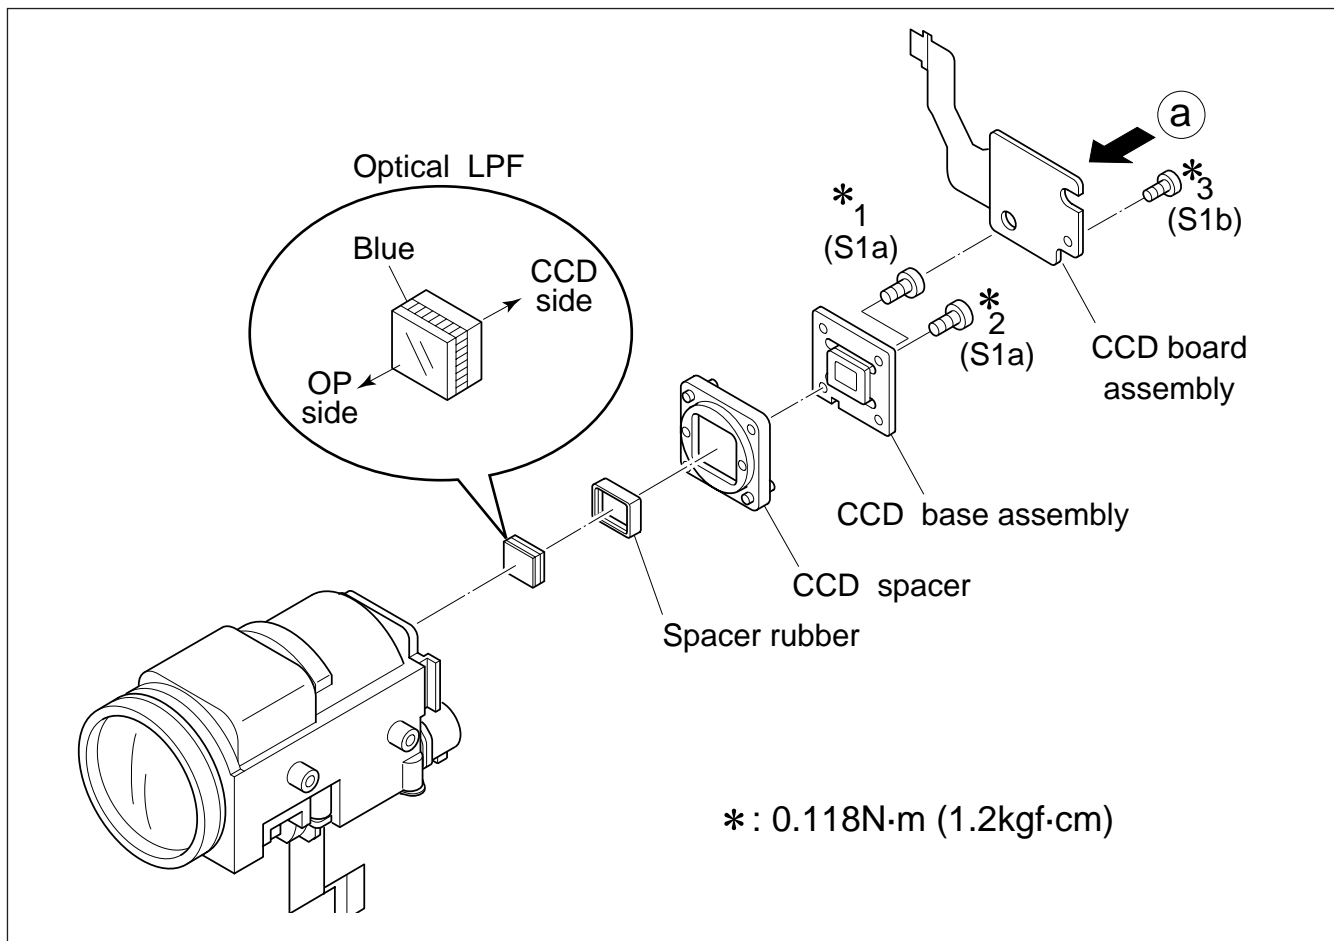

Fig. 1-5-1
1. Remove the protection seal from a new CCD image sensor. Next, put the optical LPF, spacer rubber, CCD spacer on the CCD image sensor as they are piled up in this order. At that time, make sure of orientation of each item referring to the following table (see Fig. 1-5-1).
Reference drawing	Fig. 1-5-1